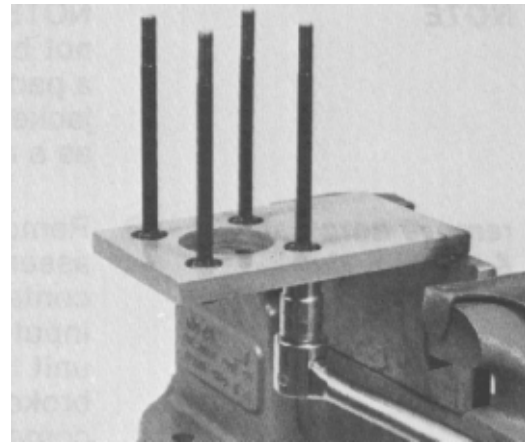

Figure 81
1. Put the four bolts into the fixture with the shortest threaded end of the bolts through the fixture holes (Fig. 81). Secure the bolts to the fixture with four 5/16–24 UNF nuts. Tighten the nuts to secure the assembly to the fixture, but loose enough to turn the bolts and facilitate stacking of components.